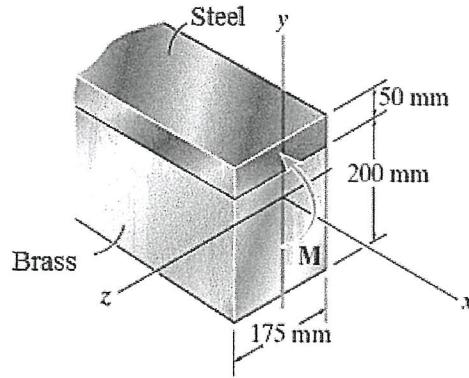
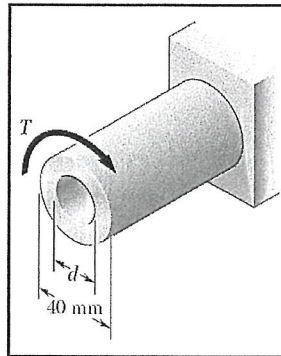

Figure Q3(b)
Figure Q4(b)
- (b) The composite beam is made of steel bonded to brass and has the cross section shown in **Figure Q3(b)**. If it is subjected to a moment of $M = 6.5$ kNm, determine the maximum bending stress in the brass and steel. Given the modulus of elasticity of steel and brass are 200 GPa and 100 GPa. (15 marks)
- Q4** (a) What is torsion and give **three (3)** examples of assumption to determining the relationship of the shearing stress in circular shaft subjected to torsions. (4 marks)
- (b) Refer to **Figure Q4(b)**, knowing that the internal diameter of the hollow shaft shown is $d = 23$ mm, determine the maximum shearing stress caused by a torque of magnitude $T = 1.0$ kNm. (6 marks)